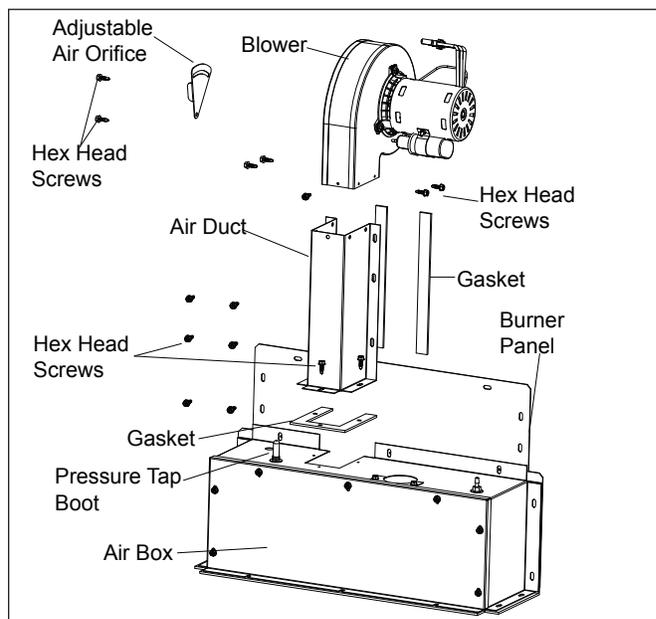

Figure 3. Removing Blower Assembly
14. Remove the five (5) hex head screws holding the blower to the air duct. Lift the blower off. See Figure 3.